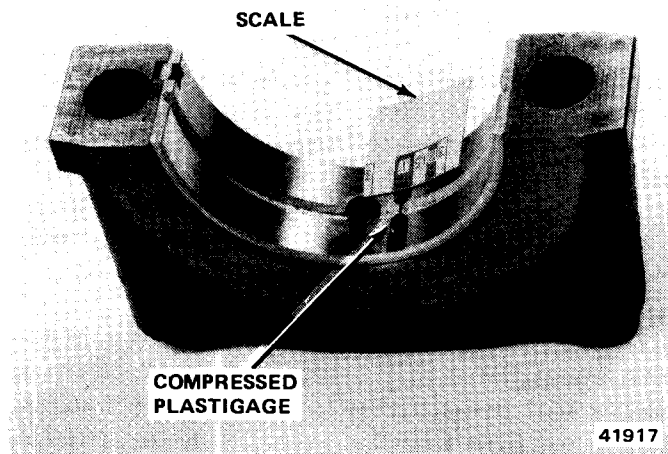

Fig. 1A-47 Checking Main Bearing Clearance with Plastigage
- (2) Remove main bearing cap and insert.
- (3) Clean insert and exposed portion of crankshaft journal.
- (4) Place strip of Plastigage across full width of bearing insert.
- (5) Install bearing cap and tighten bolts to 80 foot-pounds torque.
- (6) Remove bearing cap and determine amount of clearance by measuring width of compressed Plastigage with furnished scale (fig. 1A-47).